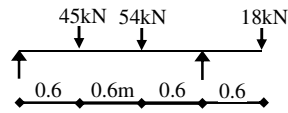

Fig. 5
4. Figure 5 shows a loaded beam.